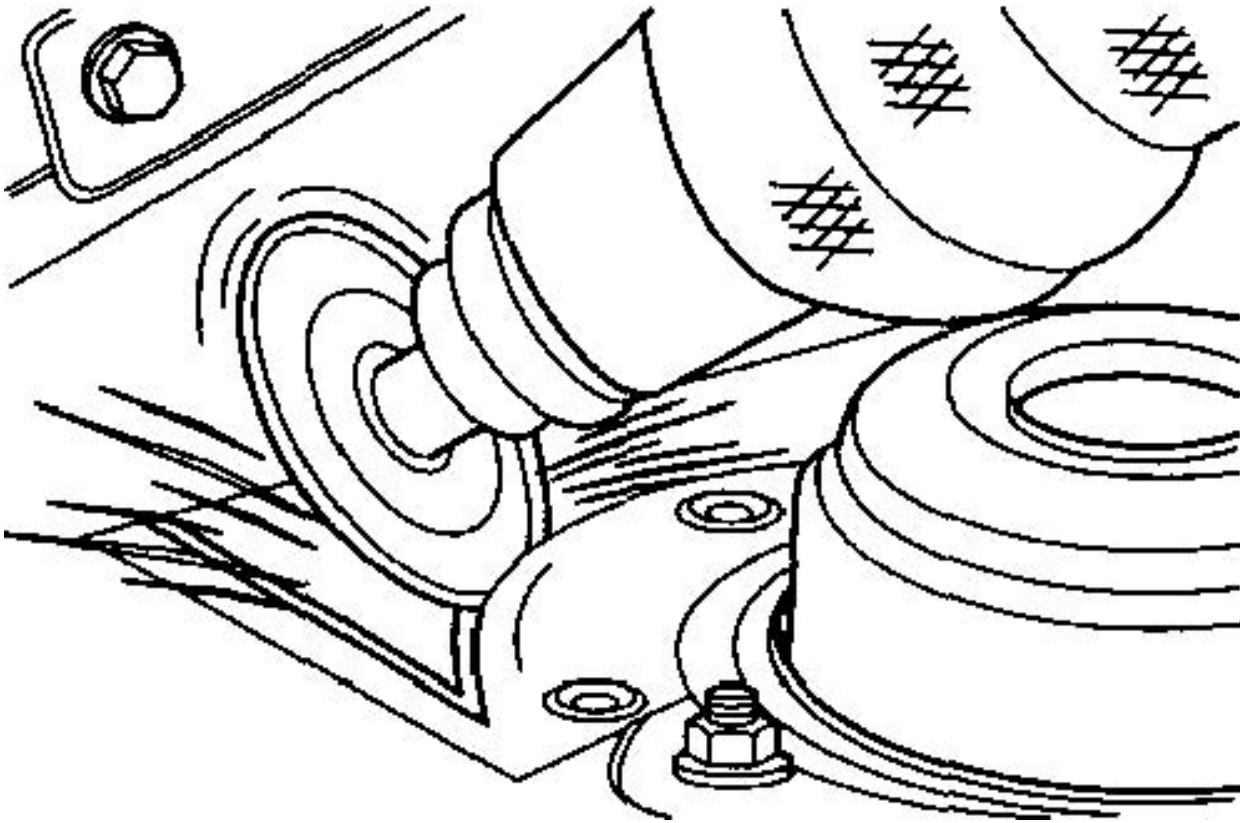

Figure 7. Use a die grinder to remove the outlined area
- B13. Using a tool such as a die grinder, cut along the lines marked using the template and remove the strut tower(s) sheet metal (**Fig. 7**).